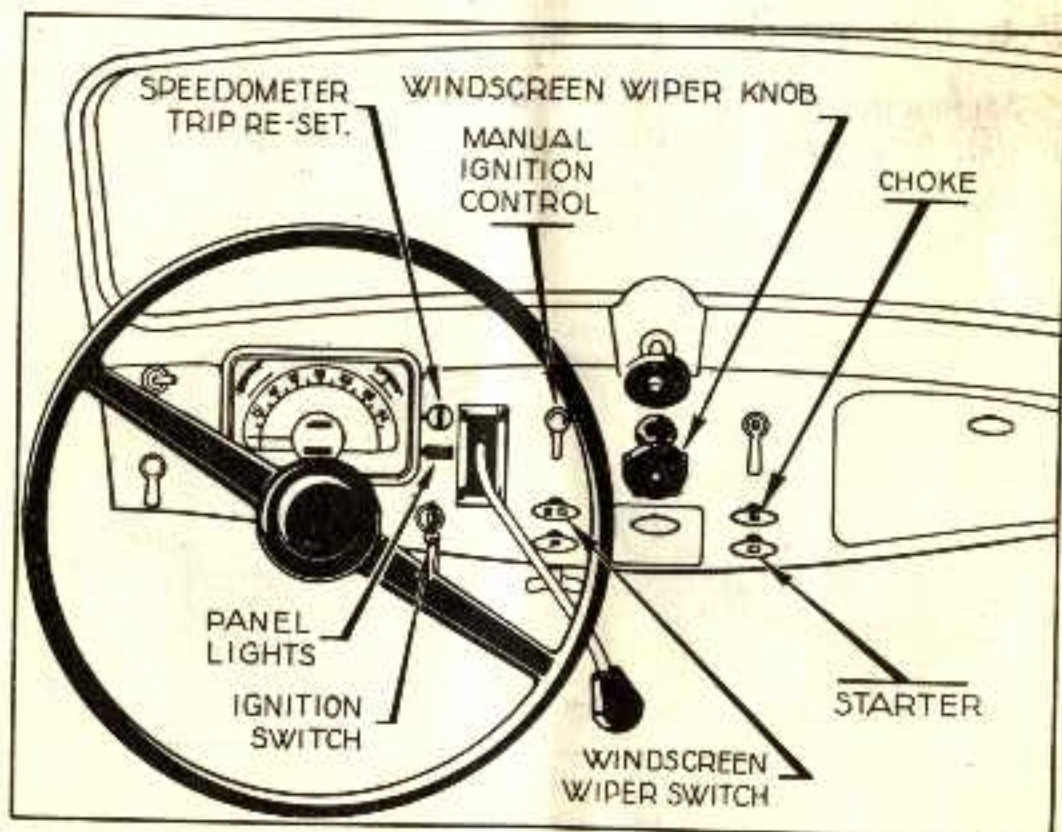

Fig. 2. — INSTRUMENT PANEL.
Declutch completely before starting the engine, and turn the Manual Ignition Control Knob (fig. 2) as far as it will go in the direction opposite to that shown by the arrow.
## Instrument Panel (fig. 2)
**Lighting.**—When the ignition and driving lights are on, the instruments are illuminated; their lighting can be dimmed by turning the milled knob (fig. 2).